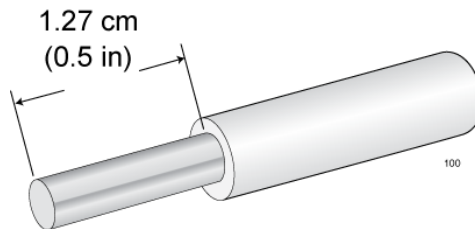

Figure 44. Stripping the Grounding Wire
1. Prepare an adequate length of stranded grounding wire (10 AWG) for the ground connection by stripping it as shown in Figure 44.